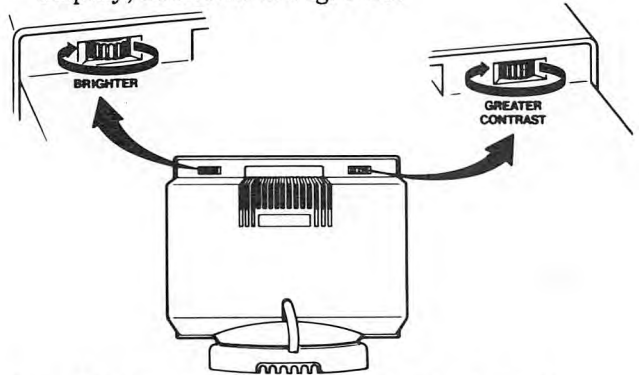
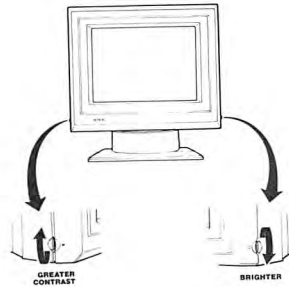

Figure 1-22. Location of brightness and contrast controls.
Figure 1-23. Location of brightness and contrast controls.
- If you have a partial page monochrome display, they will be located at the back of the display, as shown in Fig. 1-22.
- If you have a color display, they will either be located at the back of the display, as shown in Fig. 1-22, or on the sides of the display, as shown in Fig. 1-23.